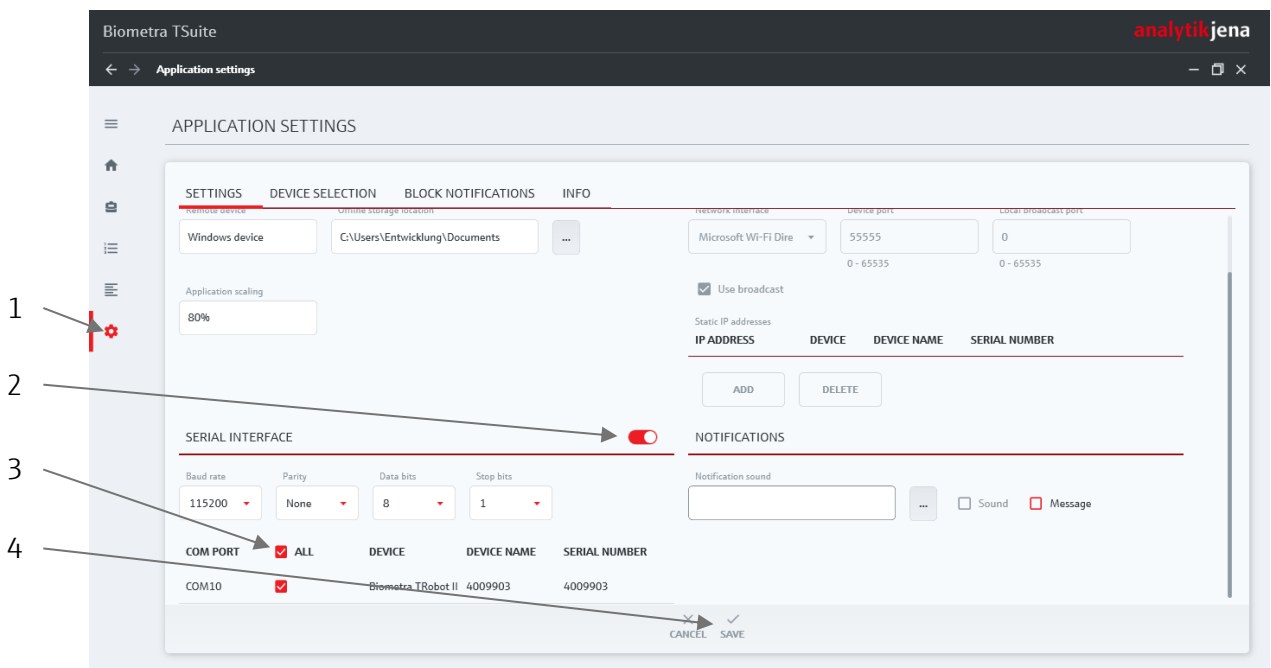

Fig. 6 Biometra TSuite settings for serial interface
- Follow the steps described below Fig. 6.